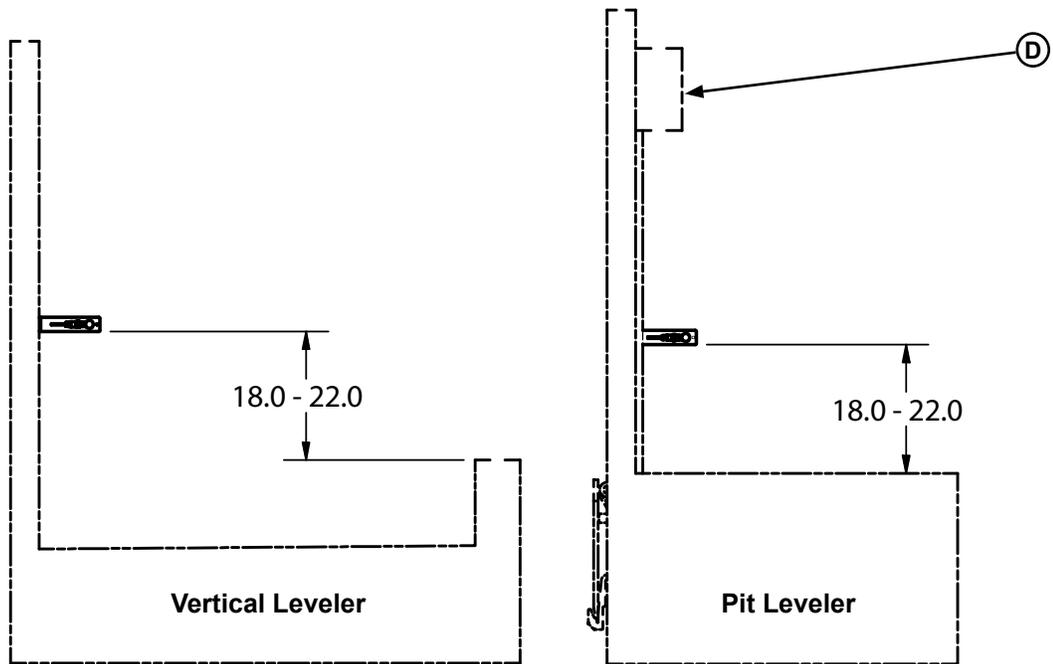

Figure 19
- Bottom edge of bracket should be 18-22 inches off the dock floor. See **Figure 19**.